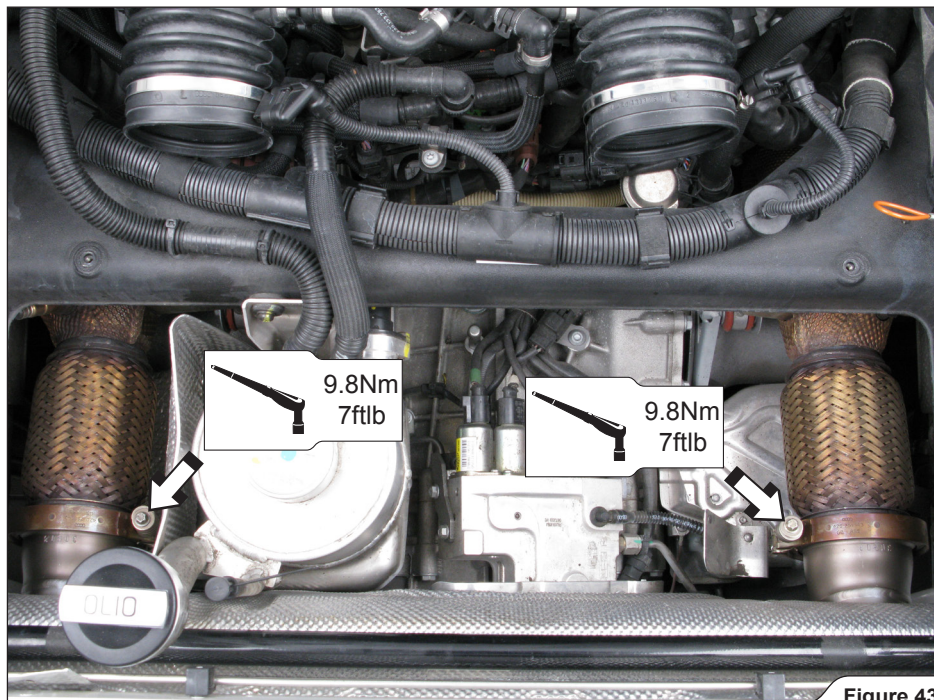

Figure 43
7. Tighten the original muffler's connection clamps on both sides of the engine to the specified torque (**Figure 43**).